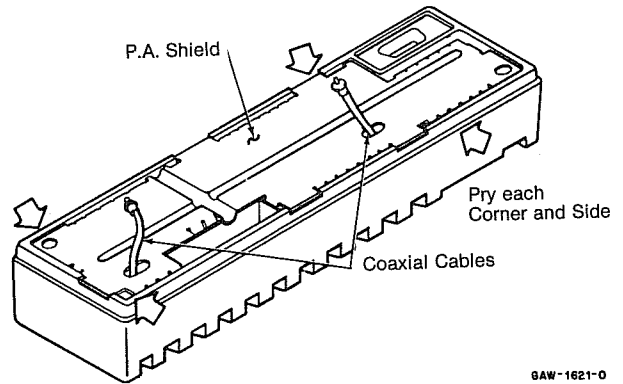

Figure 15
(1) Remove the power amplifier shield by carefully prying each corner and side until the shield slides off easily (Figure 15). Remove the shield completely by guiding the coaxial cables out.